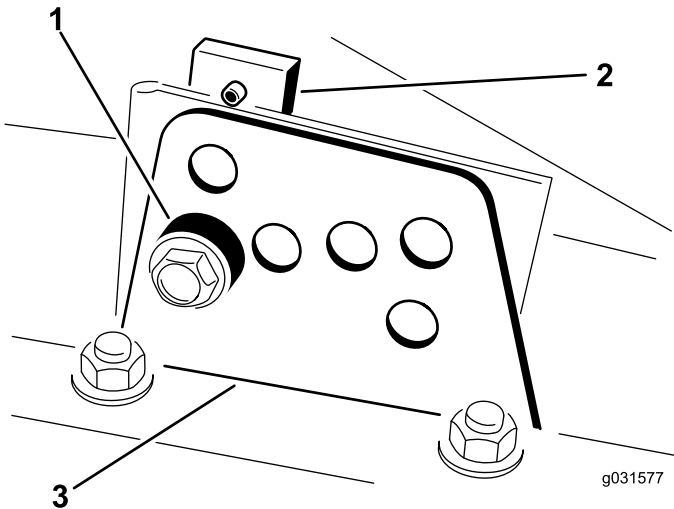

Figure 18
2. Loosen the bolt securing each height-of-cut bracket to the height-of-cut plate (front and each side) as shown in Figure 18.